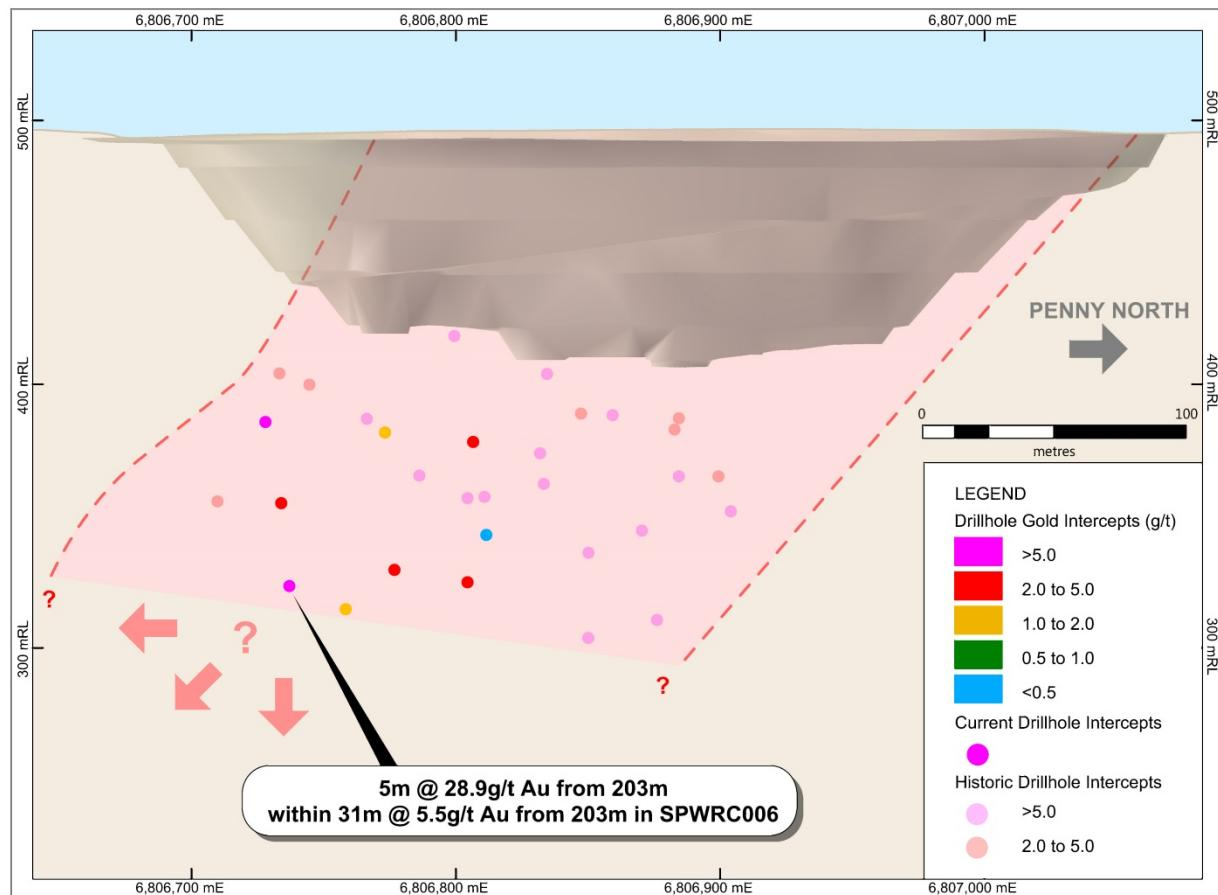

Figure 1. Long Section through the Penny West lode with new wide, high-grade intercept in SPWRC006 and open to the south and down-dip
- The intersection in hole SPWRC006 occurs in the deepest and southern most hole yet received from the SPX drilling program underneath of Penny West Open Pit (see Figure 1).